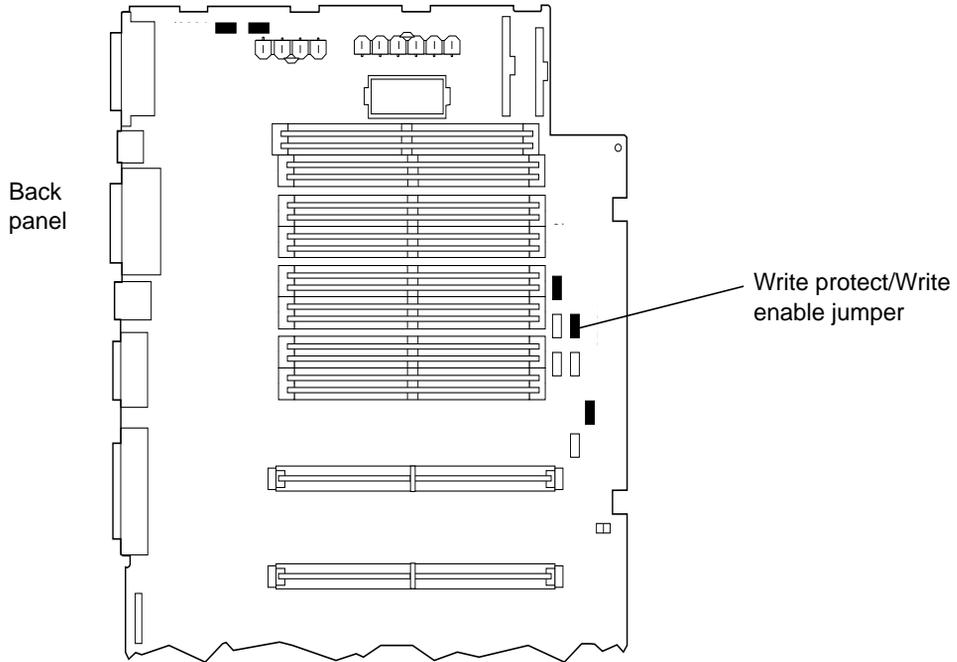

FIGURE 1-7 Sun Enterprise 250 Flash PROM Jumper Location on Motherboard
- For a Sun Enterprise 250 system, see FIGURE 1-7 on page 1-7.